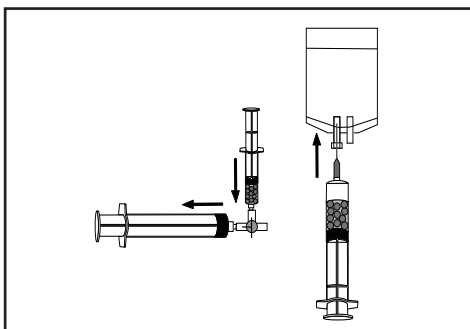

Figure 4.
- 1.3 Select an appropriately sized loading syringe (60 ml or 100 ml). Connect product syringe and loading syringe to a 3-way stopcock (Figure 4).
- 1.7 While keeping syringe upright and taking care not to disrupt settled microspheres, attach a sterile filter needle to the loading syringe. With the filter needle pointed upward, eject transport solution (Figure 4). Ensure enough transport solution remains inside the loading syringe to cover the microspheres.